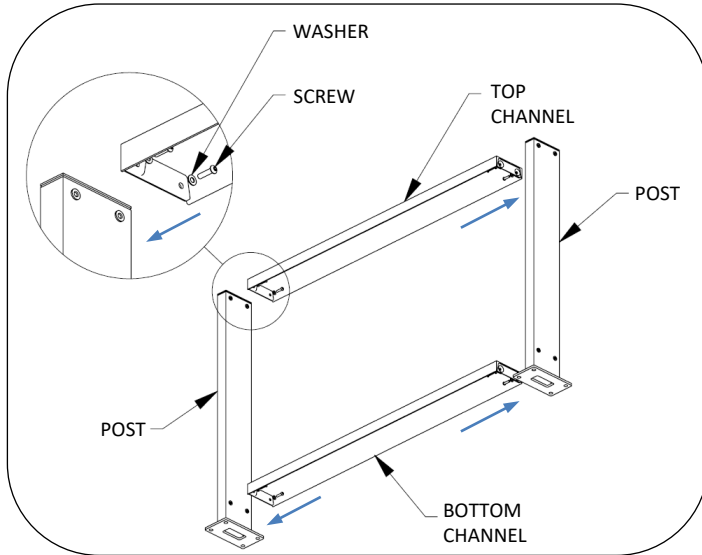

Fig. 1 – TOP AND BOTOTM CHANNELS FOR GLASS,
- For glass wall panels, green screen panels and horizontal slat panels, attach top and bottom channels to posts. Wall inserts will be attached after posts are anchored. See Fig. 1.